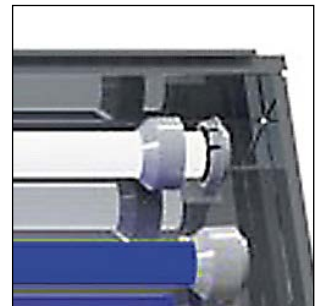

Fig. 35 Undo the screw connections
6. Undo the screw connections on the sockets of the fluorescent tubes to be exchanged (Fig. 35).